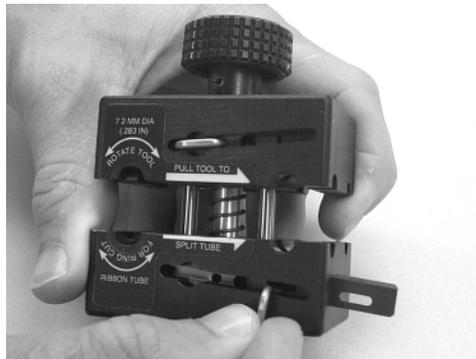

Figure 7 – Slide the cutting blade out of the tool.
8.3 Insert the tip of the locking clip in the elongated slot and push the cutting blade out of the tool (Figure 7).